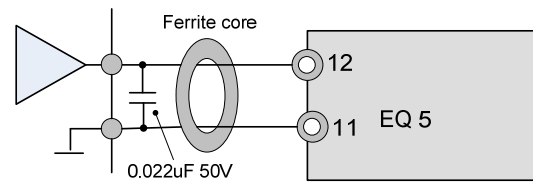

Fig. 2-3-9 Noise Suppression Example
An inverter of 40HP/CT, 50HP/VT or greater uses an AC cooling fan. When the inverter is being operated with DC Input power, the fan must still be energized from an AC power source. To do this, position the fan connector (CN RTXT) as shown in Fig. 2-3-9 and provide AC voltage to auxiliary input terminals R0 and T0. For the (CN RTXT) connector placement method, see Fig. 2-3-7.
- c. If an external analog signal output device is connected to these terminals, it may malfunction as a result of inverter noise. To prevent malfunction, connect a ferrite core or capacitor to the external analog signal output device as shown in Fig. 2-3-9.